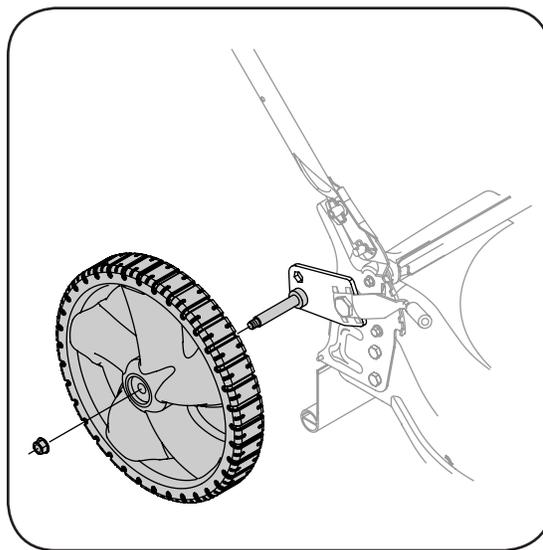

Figure 3-5: If not already installed, assemble rear wheels.
- c. Slide wheel, with hollow side in, onto pivot arm and secure with lock nut. See Figure 3-5.